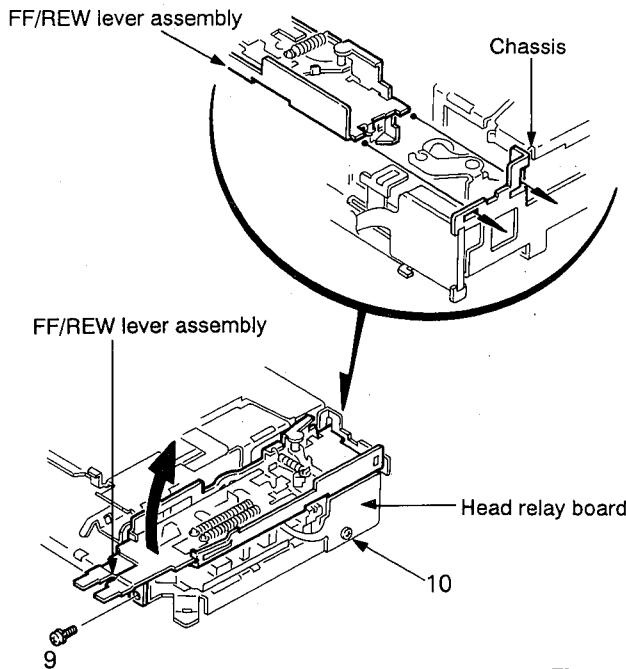

Fig. 4-9
2. Remove two screws (8) retaining the mechanism holder from the cassette mechanism assembly.
3. Remove one screw (9) retaining the FF/REW lever assembly from the cassette mechanism assembly. (See Fig. 4-9.)
4. Lift the FF/REW lever assembly in the arrow direction as shown in Fig. 4-9.
5. Disengage the tip of the FF/REW lever from the cutout portions of the chassis. (See Fig. 4-9.)
### ■ PB head (Figs. 4-9, 4-10)